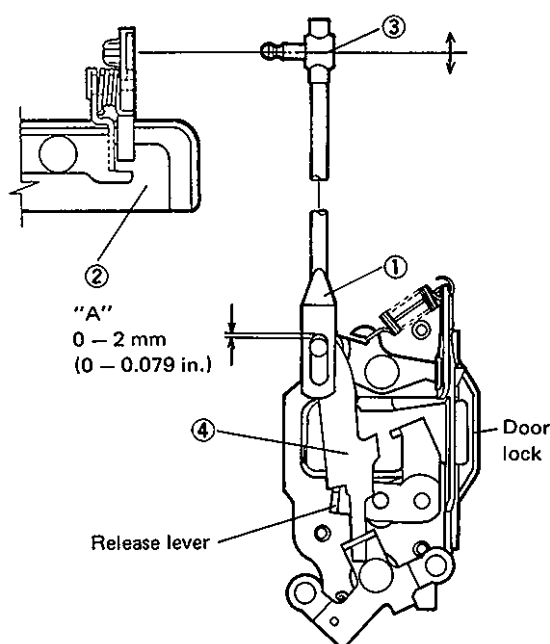

Fig. 20-18
When installing open rod ① on outside handle ②, adjust clearance "A" as in Fig. 20-18 to 0 – 2 mm (0 – 0.079 in) by turning adjusting joint ③.